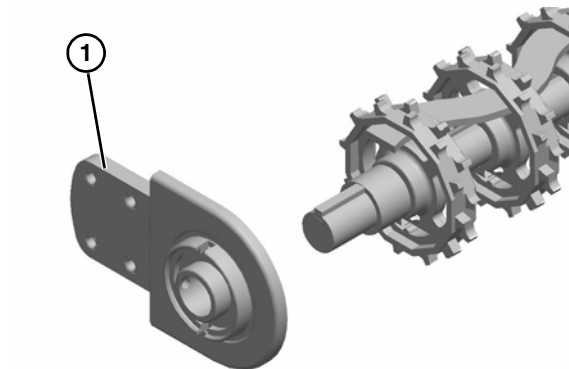

Figure 57
7. Slide the head plate with bearing (Figure 57, item 1) off the shaft.